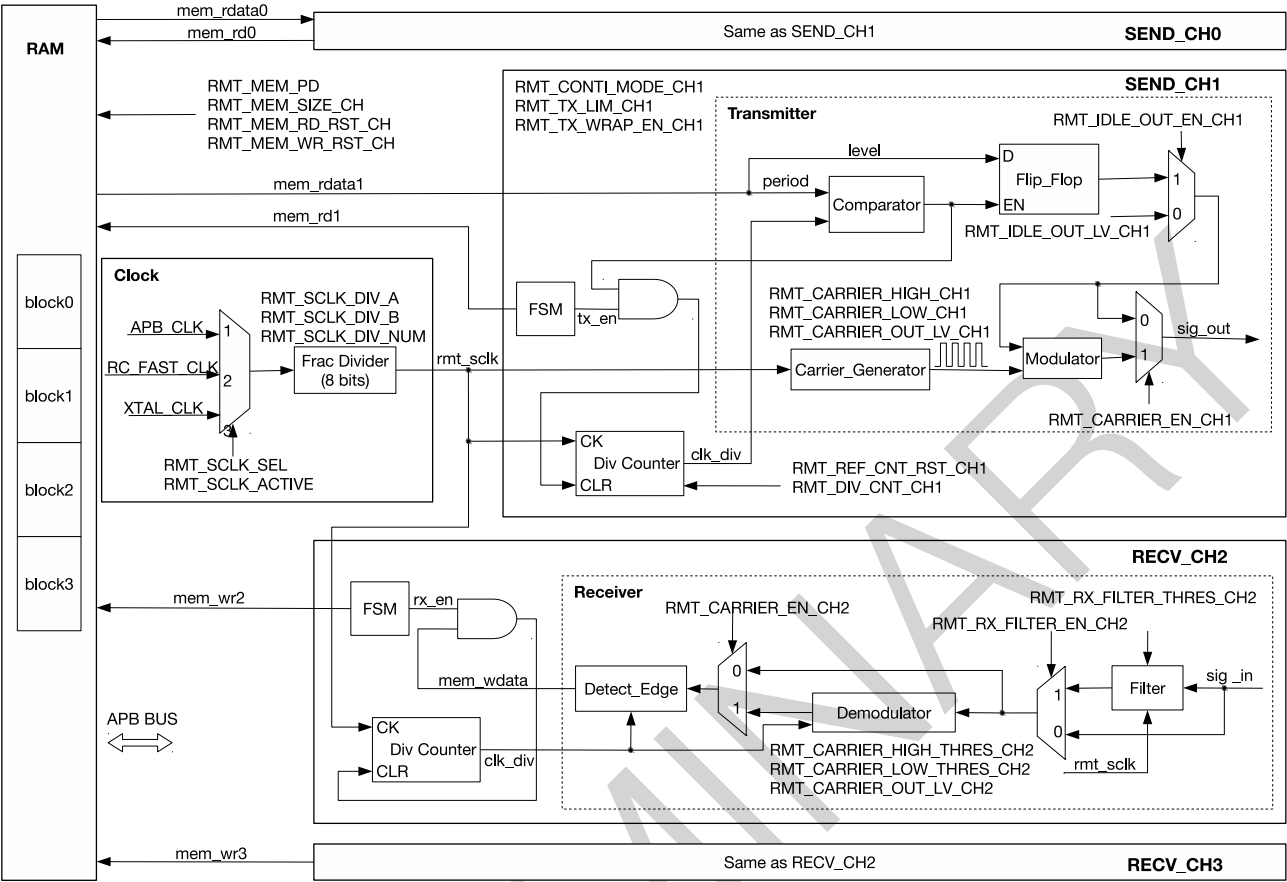

Figure 32-1. RMT Architecture
- Period: points out how many clk_div clock cycles the level lasts for, see Figure 32-1.
The clock source of RMT can be APB_CLK, RC_FAST_CLK or XTAL_CLK, depending on the configuration of RMT_SCLK_SEL. RMT clock can be enabled by setting RMT_SCLK_ACTIVE. RMT working clock (rmt_sclk) is obtained by dividing the selected clock source with a fractional divider, see Figure 32-1. The divider is:
RMT_DIV_CNT_CH n/m is used to configure the divider coefficient of internal clock divider for RMT channels. The coefficient is normally equal to the value of RMT_DIV_CNT_CH n/m , except value 0 that represents coefficient 256. The clock divider can be reset by clearing RMT_REF_CNT_RST_CH n/m . The clock generated from the divider can be used by the counter (see Figure 32-1).